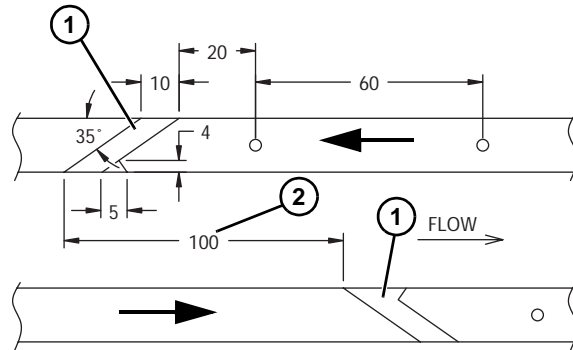

Figure 36
- Do not place two slide rail joints (**Figure 36, item 1**) opposite each other. Make sure there is a distance of at least 100 mm (**Figure 36, item 2**) between them to make the chain run smoother. This does not apply to slide rail that begins by an idler unit or after a drive unit, where joints are always parallel.